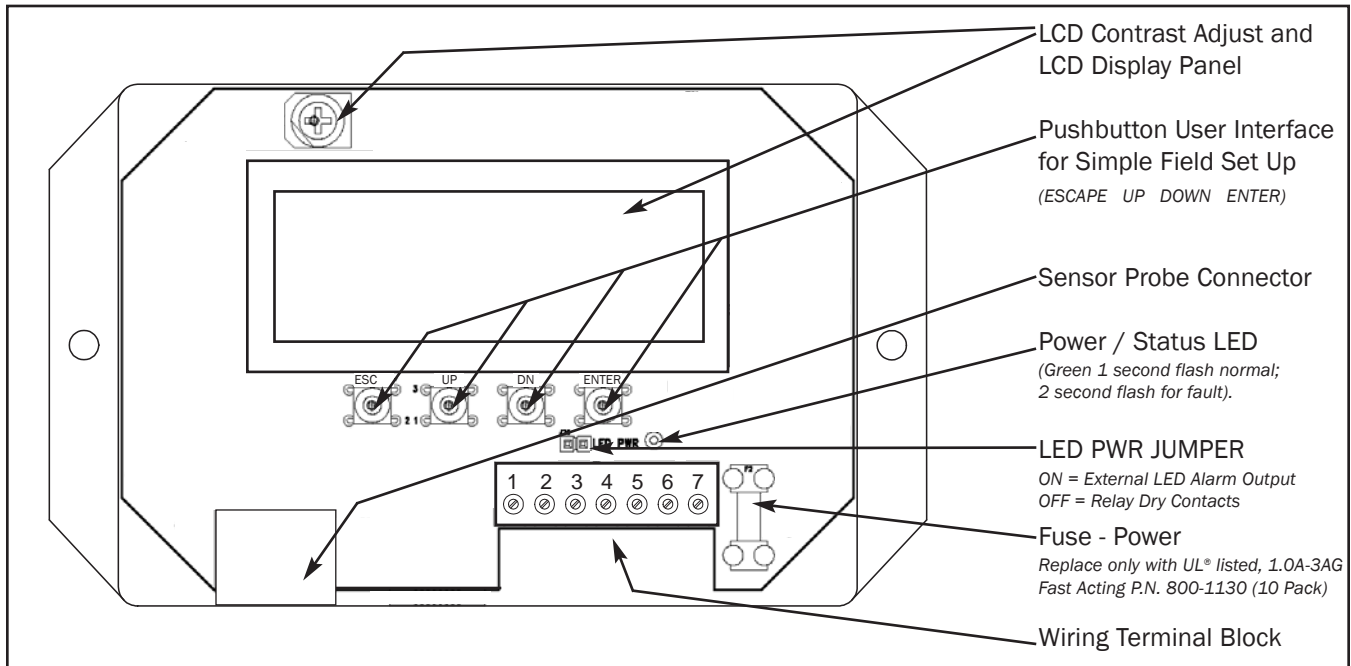

Figure 6. GF-1200-A Main Circuit Board Detail
Transmitter wiring consists of connecting the 24VAC input power, the analog output signal wires and optional alarm output wires at the GF-1200-A. Refer to Figures 6 and 7 for additional detail. Following installation, the airflow measurement station is ready for operation. Custom setup options (other than the default values) can be entered as outlined in the transmitter Setup Procedure.
1. ☐ Remove the four cover retaining screws at each corner of the transmitter cover in order to gain access to the transmitter Wiring Terminal Block on the main circuit board shown in Figure 6.
3. ☐ Connect 24 VAC power to terminal 7, and the 24V ground at terminal 6 of the wiring terminal block as shown in Figures 6 and 7, observing the previous wiring precautions.
1. ☐ Connect AOUT analog output signal wire at terminal 5, and the signal ground at terminal 4 as shown in Figures 6 and 7 while observing the previous wiring precautions.
The GF-1200-A provides an alarm output that can be configured as relay dry contacts, or as direct drive (15 mA typical) for an external LED indicator. The alarm output type is set using the LED PWR jumper on the GF-1200-A circuit board as shown in Figure 6. With the LED PWR jumper on, alarm output is set to provide an external LED drive (15 mA typical) at terminal 3, with ground return at terminal 1. With the LED PWR jumper OFF, alarm output is set to provide relay dry contacts between terminals 2 and 3 (contacts rated at 30VDC/24VAC 3 amps maximum). Alarm can be set as contact close or open on alarm as detailed in the Setup menu later in this manual.
The programmable alarm feature consists of a user selectable alarm output type (relay dry contacts or LED drive) that can be configured in the Setup menu as an airflow alarm or system trouble alarm. The alarm output type, either external LED driver (15 mA typical), or relay dry contacts, is determined by the LED PWR jumper on the GF-1200-A transmitter circuit board (Figure 6).
As a system trouble alarm, the alarm can be set to activate in the event of a fault detected in the sensor or transmitter. The alarm output type, either external LED driver (15 mA typical), or relay dry contacts, is determined by the LED PWR jumper on the GF-1200-A transmitter circuit board (Figure 6).